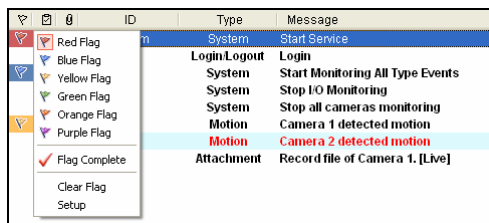

Figure 1-43
1. On the Event List window, select one event, and right-click in the flag column. The flag list appears (see Figure 1-43).